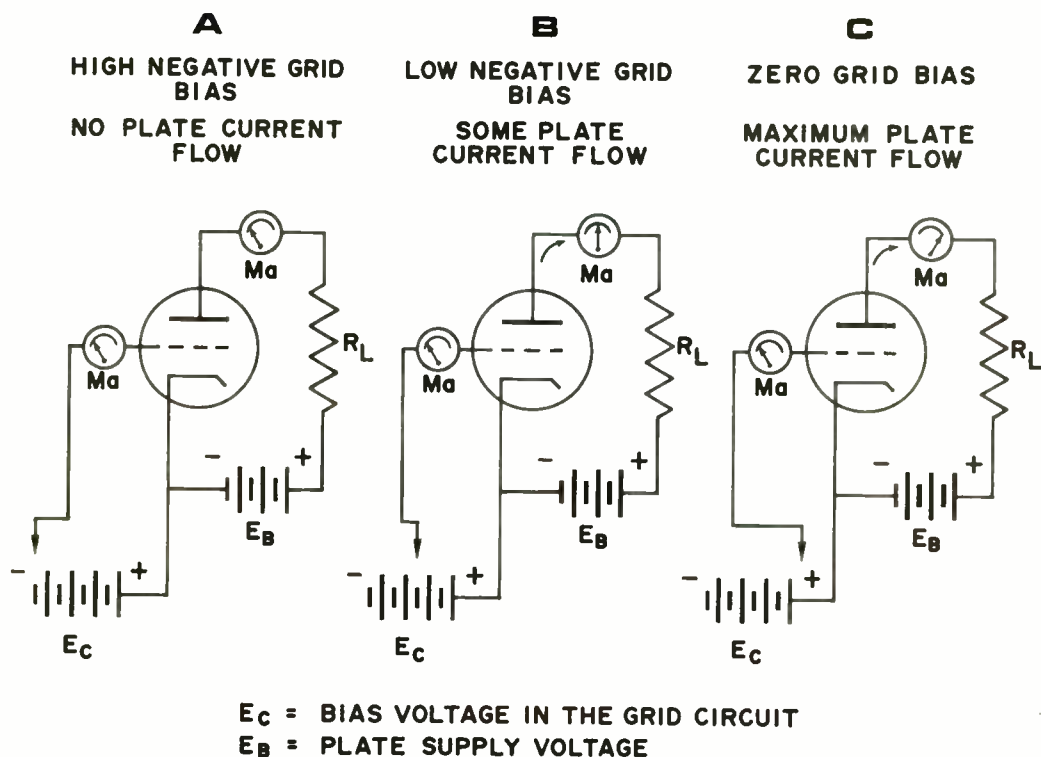

Figure 21 — The plate current increases as the bias voltage on the grid is made less negative.
**Tube Characteristics** The grid may act as a valve to control the plate current since the voltage variation on the grid has a much greater effect on the plate current than do changes in plate voltage. When a resistance or impedance load  $R_L$  (Fig. 21) is placed in series in the plate circuit, the voltage drop across it, which is a function of the plate current flowing through it, is controlled by the grid voltage. Thus, a small change in grid voltage causes a large change in voltage across the load. In other words, the grid voltage is *amplified* in the plate circuit.